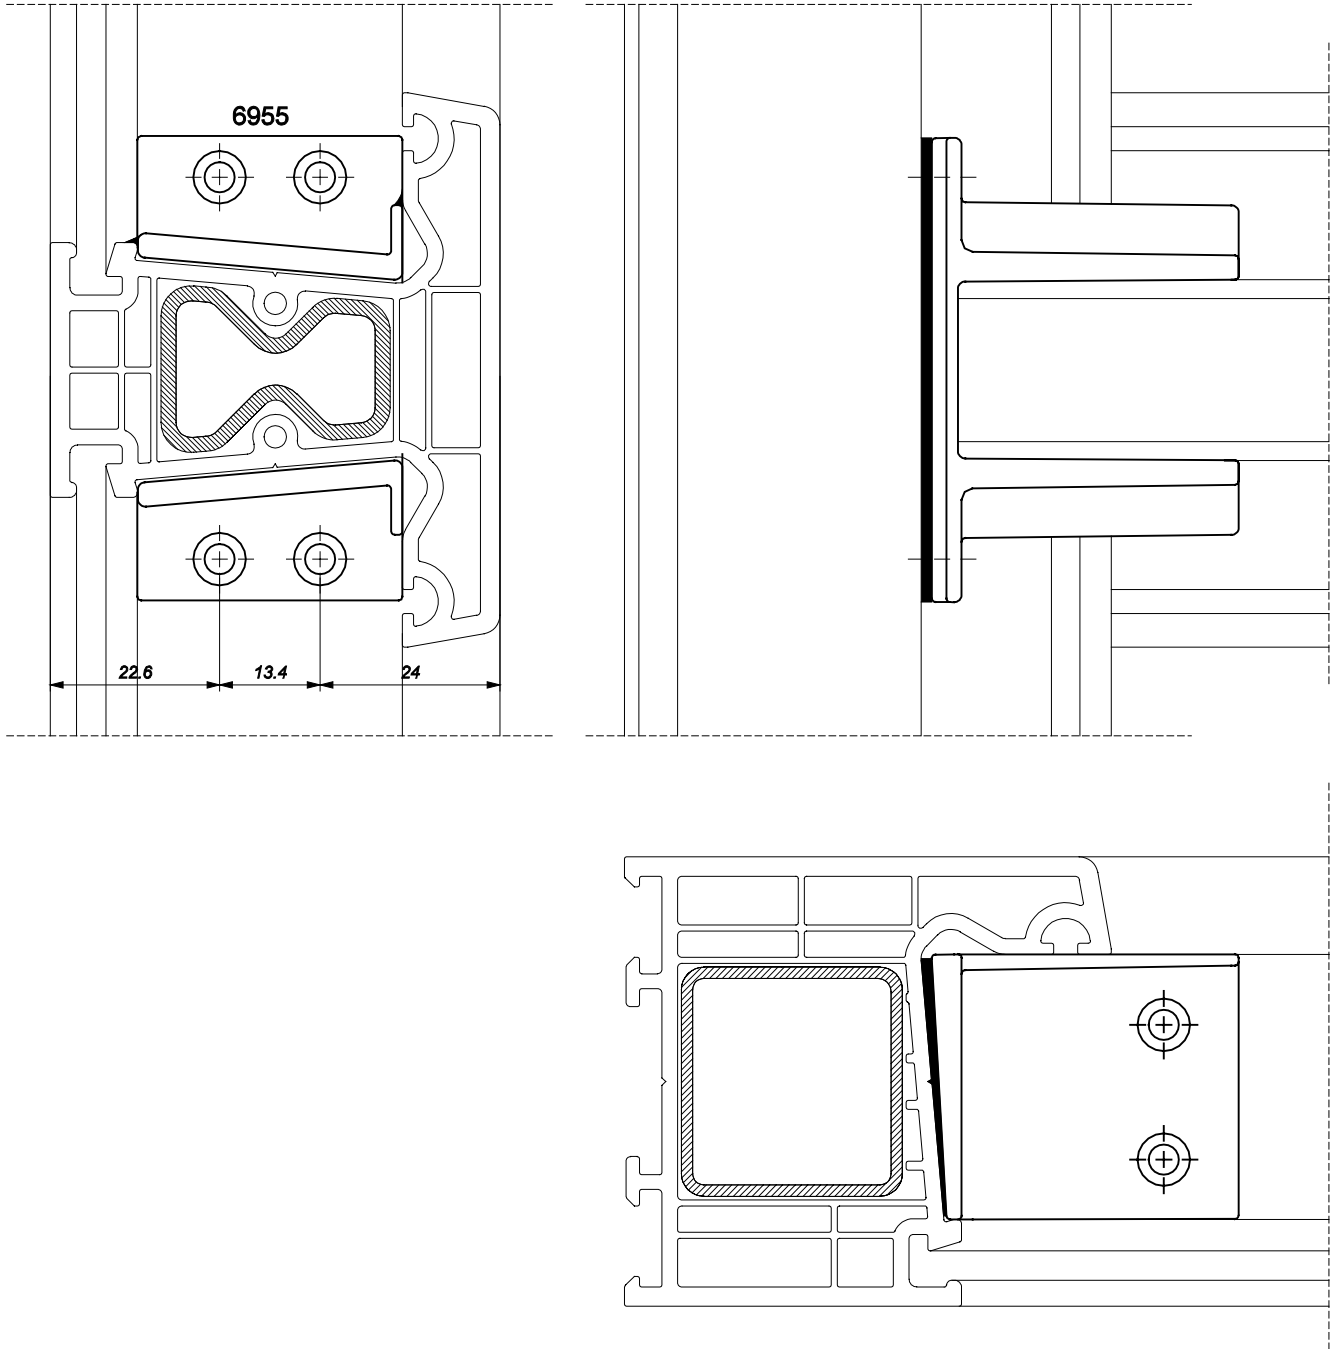
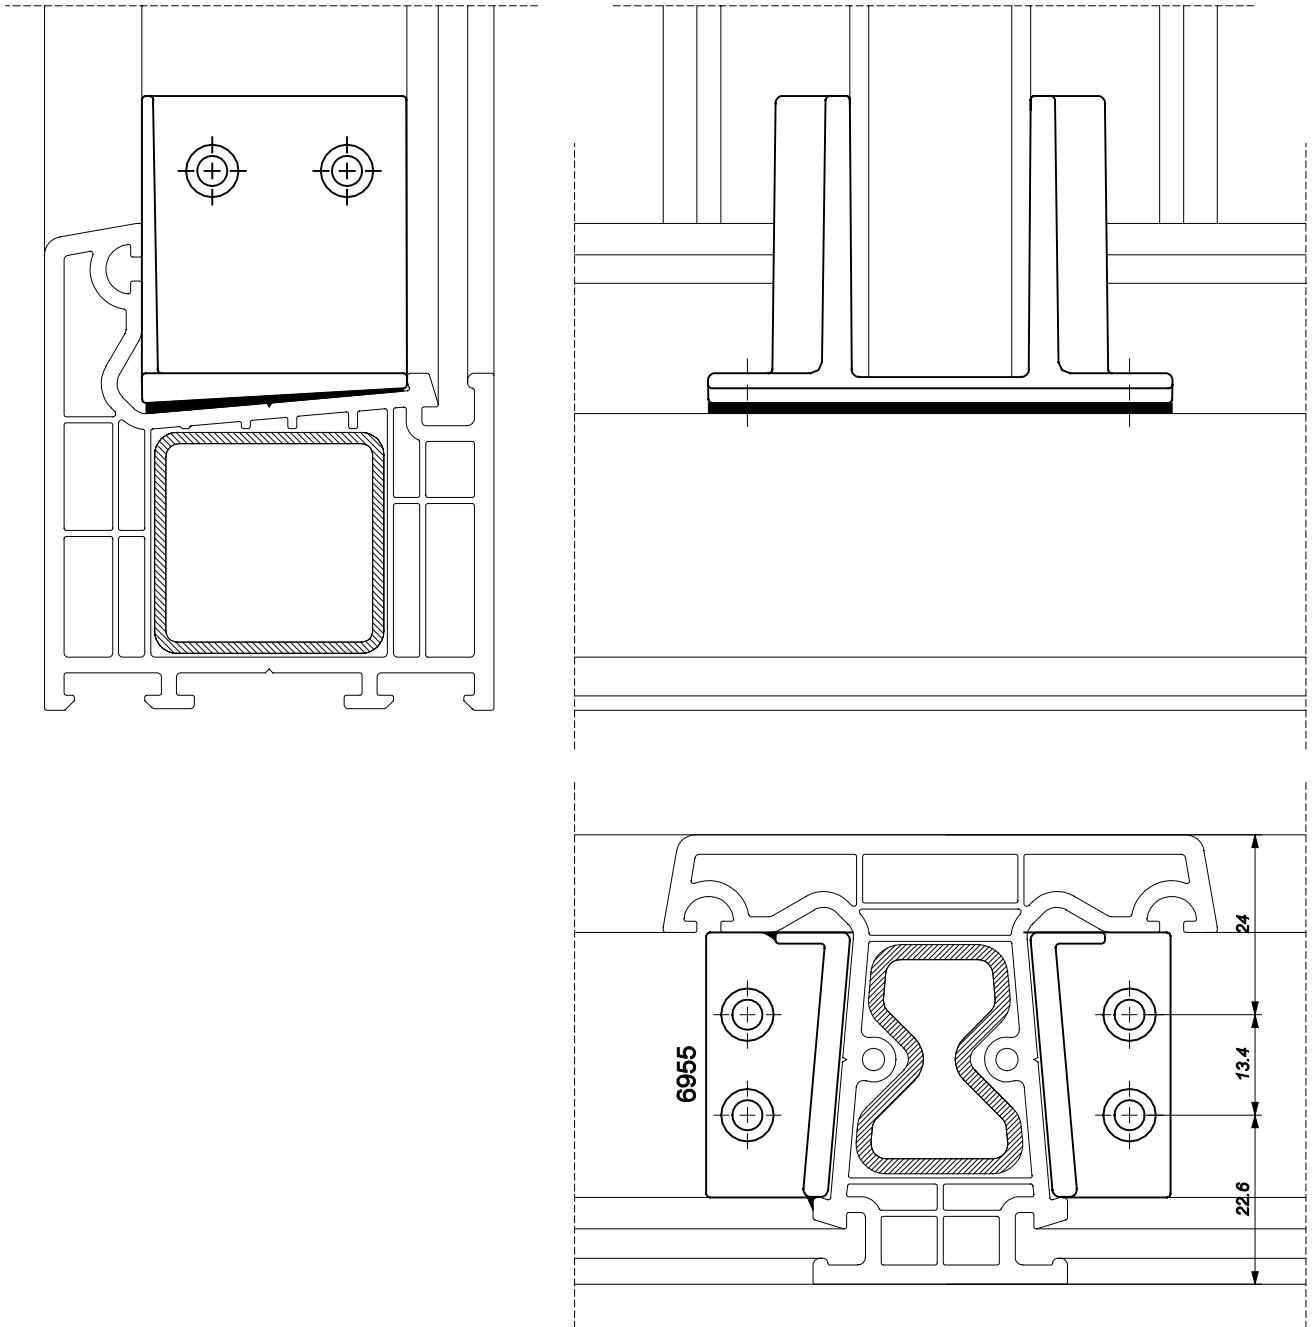

fig.13
fig.14
- Ref. 6955 for Ref. 2510 (fig. 13 and fig. 14)